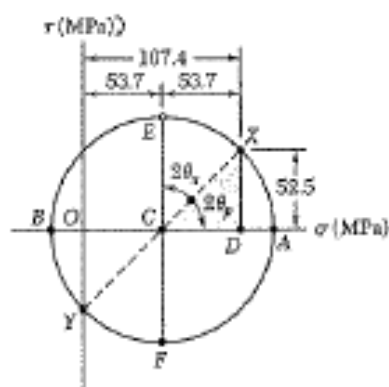
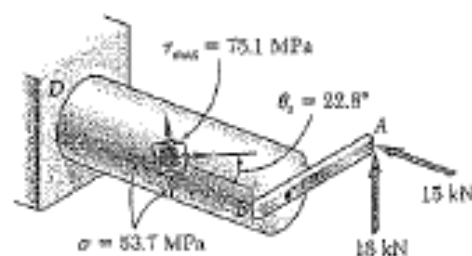

Fig. 8.25
Fig. 8.27
b. Principal Planes and Principal Stresses at Point K . We can use either of the two methods of Chap. 7 to determine the principal planes and principal stresses at K . Selecting Mohr's circle, we plot point X of coordinates $\sigma_x = +107.4 \text{ MPa}$ and $-\tau_{xy} = +52.5 \text{ MPa}$ and point Y of coordinates $\sigma_y = 0$ and $+\tau_{xy} = -52.5 \text{ MPa}$ and draw the circle of diameter XY (Fig. 8.25). Observing that
c. Maximum Shearing Stress at Point K . This stress corresponds to points E and F in Fig. 8.25. We have
Observing that $2\theta_s = 90^\circ - 2\theta_p = 90^\circ - 44.4^\circ = 45.6^\circ$, we conclude that the planes of maximum shearing stress form an angle $\theta_s = 22.8^\circ$ with the horizontal. The corresponding element is shown in Fig. 8.27. Note that the normal stresses acting on this element are represented by OC in Fig. 8.25 and are thus equal to $+53.7 \text{ MPa}$.